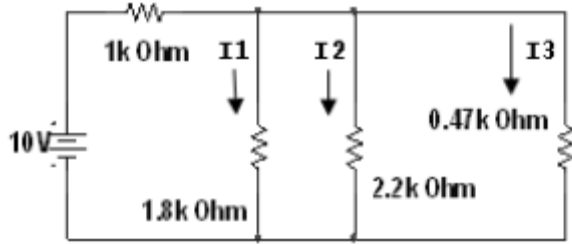

Figure 8a
1) Connect the circuit as shown in Figure 8a